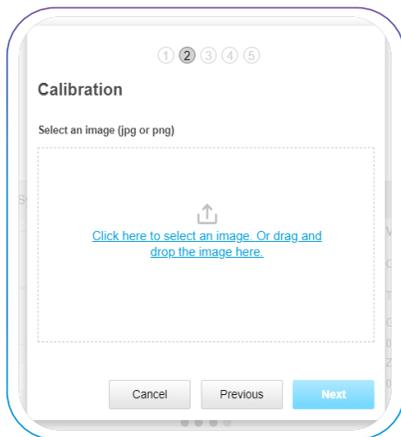

Figure 14. Calibration Step 2 of 5
E. Upload the Reference Map image by clicking on the blue highlighted text (**Figure 14**).